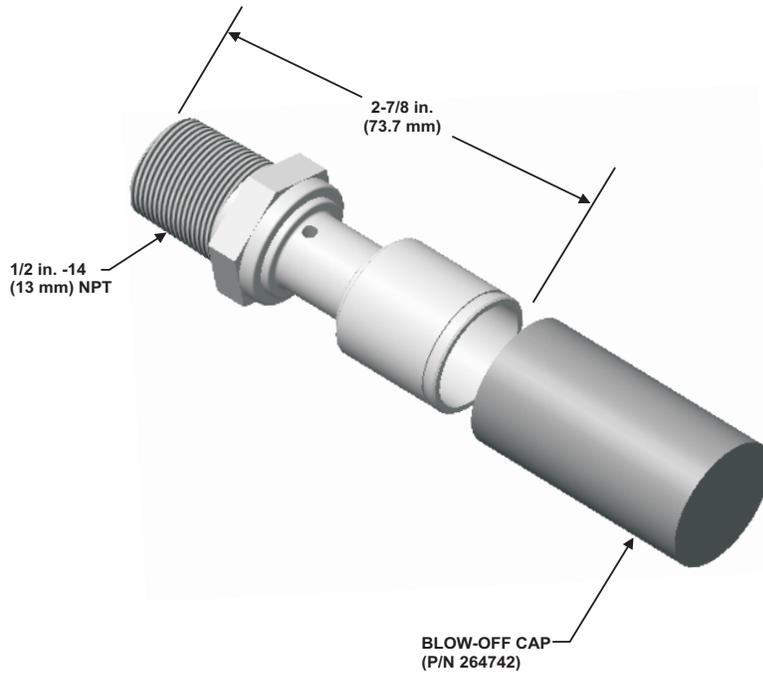

Figure 2-9. Duct/Plenum (DP) Nozzle, P/N B100006
The Duct/Plenum (DP) Nozzle, shown in Figure 2-9, is designed to discharge dry chemical throughout an exhaust duct or plenum.